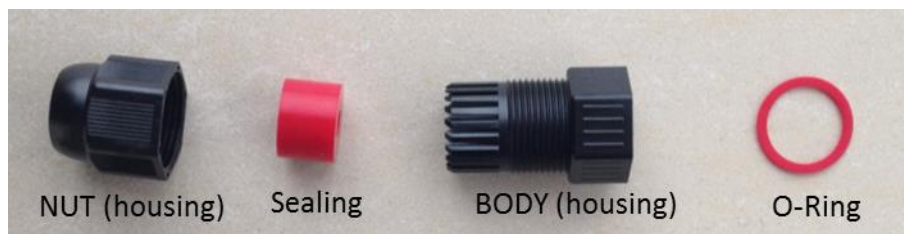

Figure 8 - Waterproof Plug Set
1. Make sure the waterproof plug should contains four components (see Figure 8):